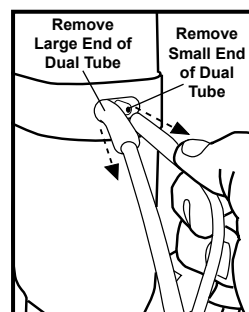

Figure 12
- Remove the dual tubing from the Crystal Capsule™ that is designed for crystal use (fig. 12).